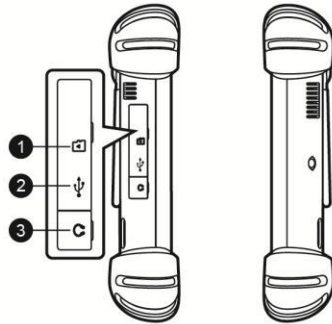

Figure 2-3 MaxiSys Tablet Left Side
4. USB Port (It cannot be used at the same time with the Mini USB Port in Figure 2-3 MaxiSys Tablet Left Side)